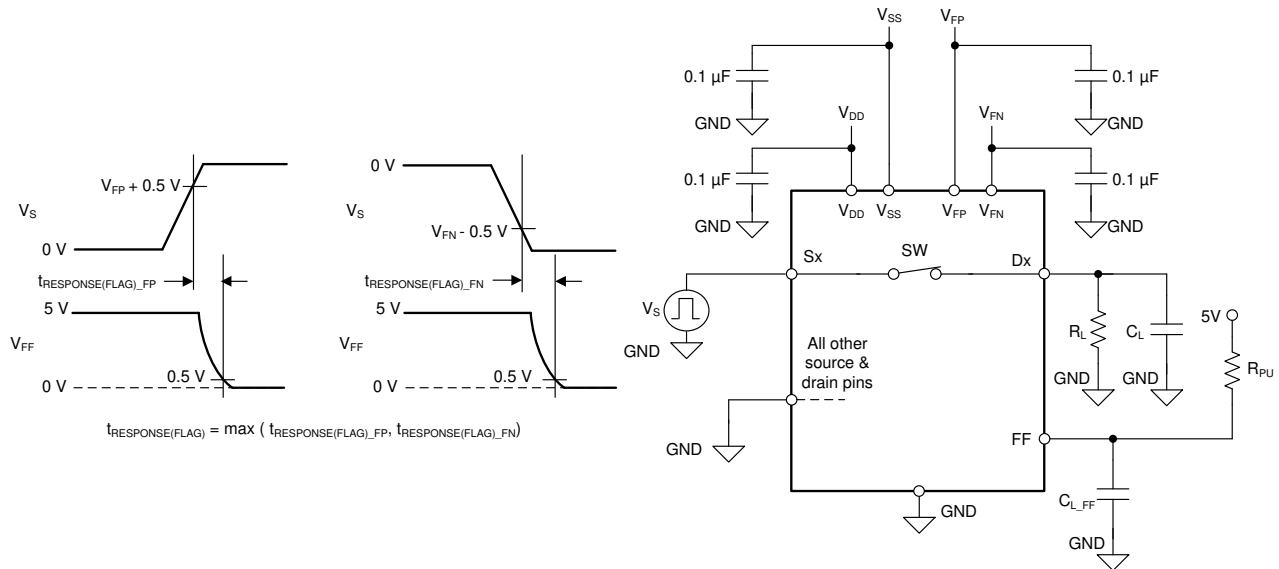

Figure 7-7. Fault Flag Response Time Measurement Setup
Fault flag response time ( $t_{\text{RESPONSE(FLAG)}}$ ) measures the delay between the source voltage exceeding the fault supply voltage ( $V_{\text{FP}}$  or  $V_{\text{FN}}$ ) by 0.5 V and the general fault flag (FF) pin to go below 10% of its original value. Figure 7-7 shows the setup used to measure  $t_{\text{RESPONSE(FLAG)}}$ .